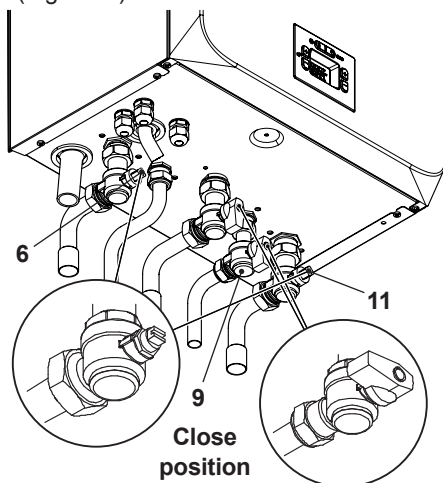

Fig. 10.8
• Turn off the D.C.W. inlet isolating valve 9 (Fig. 10.8).
• Close the C.H. isolating valves (6 and 11 in Fig. 10.8).